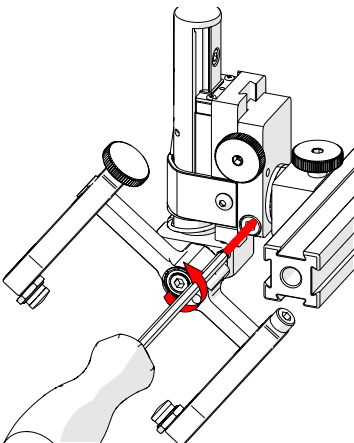

Fig. 90 - Loosen 3 mm screw
- Using the supplied 3 mm hex driver (Fig. 40), loosen the longitudinal adjustment screw (Fig. 90).